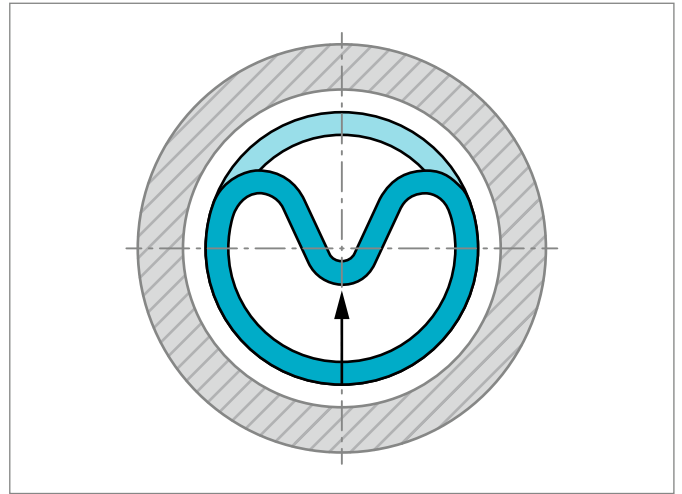
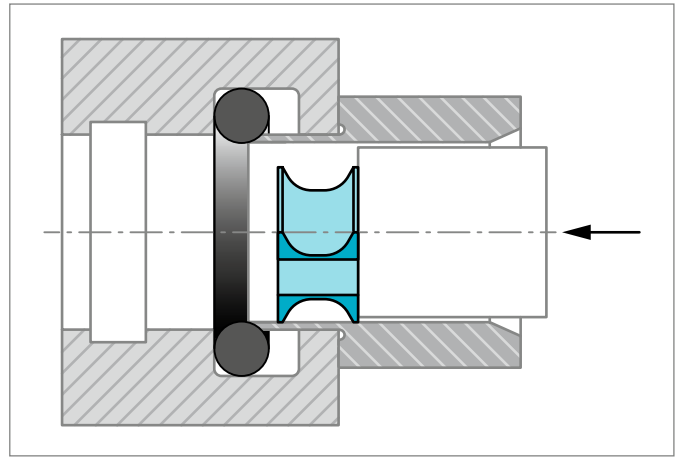

Figure 15: Inserting the seal ring into the closed groove
Figure 16: Insertion with an inserter tube
- Place the seal ring in compressed form into the groove and push against the O-Ring in the direction of the arrow in the groove by hand - see Figure 15. For diameters smaller than 30 mm an inserter tube is recommended - see Figure 16.